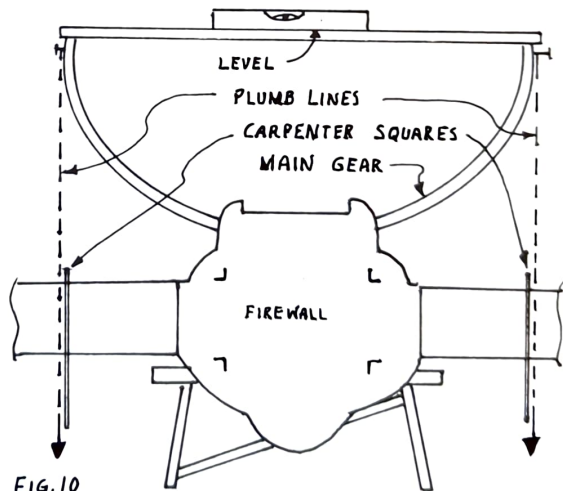

FIG. 10
- 6) Bondo a straight board across the gear legs (Fig.10) and bondo your small level in the center. This will allow you to set both legs to the same length.